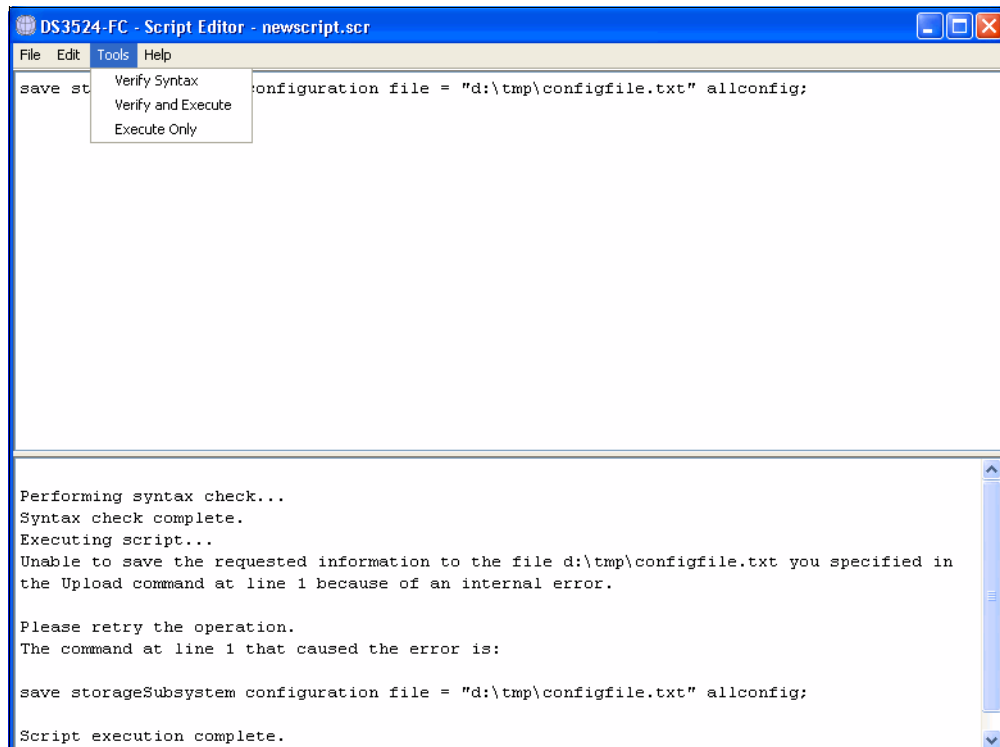

Figure 17-3 Tools menu
3. Click **File** → **Save Script** and **File** → **Load Script** to save and retrieve script files that you create, respectively. The **Tools** menu includes options to verify the syntax and run the scripts as shown in Figure 17-3 on page 522.